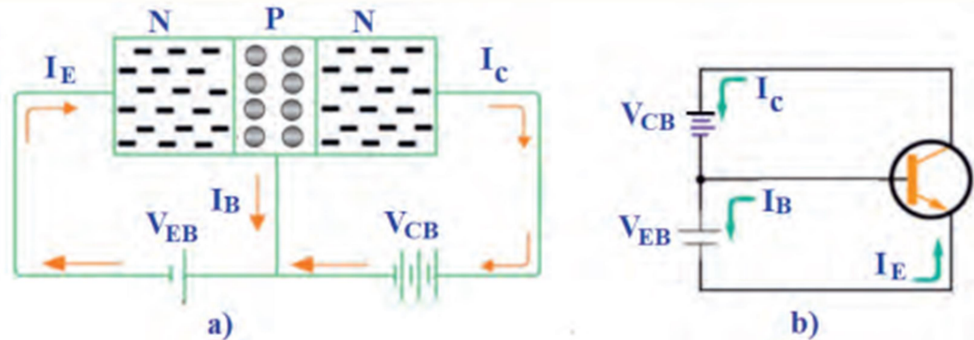

Figure 5.18 Electron current flow in NPN transistor (a) Block diagram NPN transistor (b) Schematic diagram of NPN transistor.
- Electrons leave the negative terminal of the battery and enter the N material (emitter) as shown in Figure 5.18. This constitutes the emitter current I_E .
- The arrows in Figure 5.18 show the direction of the electron current which is opposite to the direction of the hole current (conventional current).